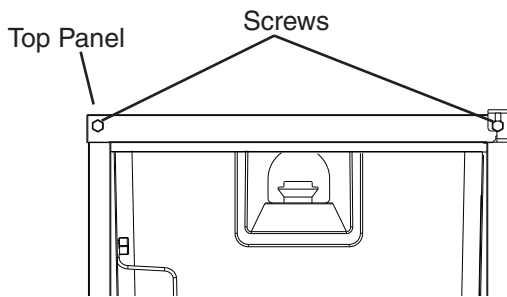

Fig. 4
- a) Contact your local distributor to purchase Kit HS-0229. The kit contains "hinge (A)-left."
- b) Remove the 2 bolts securing the top panel, then lift it off. See Fig. 4.